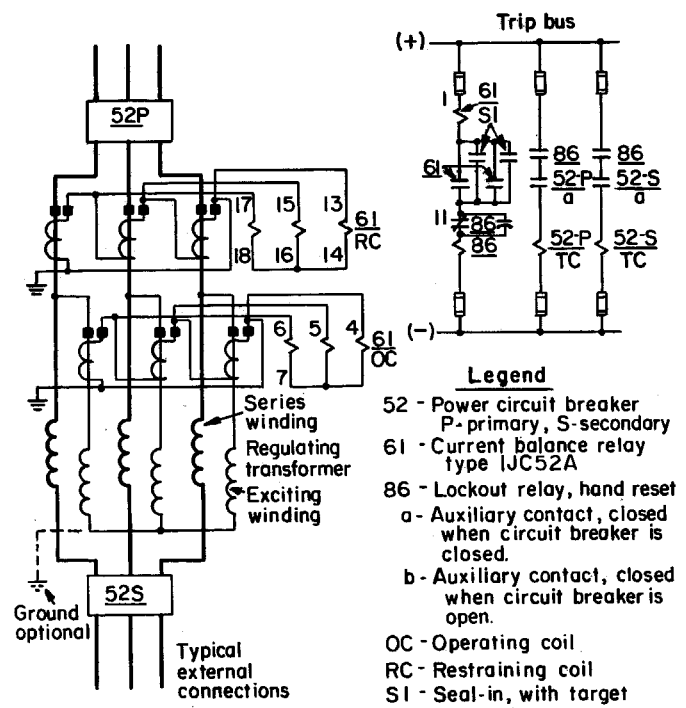

Fig. 3. Typical External Connections for the Type IJC52A Relay
SBC223A - Includes one timer (A/O) and an instantaneous trip (IT) that can function as a re-trip of the original circuit breaker or as a seal-in. The timer is started by contact initiation (BFI) and is reset when either the contact initiation is removed or the current detector resets. Two N.O. BFT contacts with targets (T_1 and T_3), one BFT contact without target, and one instantaneous IT N.O. contact with target (T_2) are provided. See Figure 3.